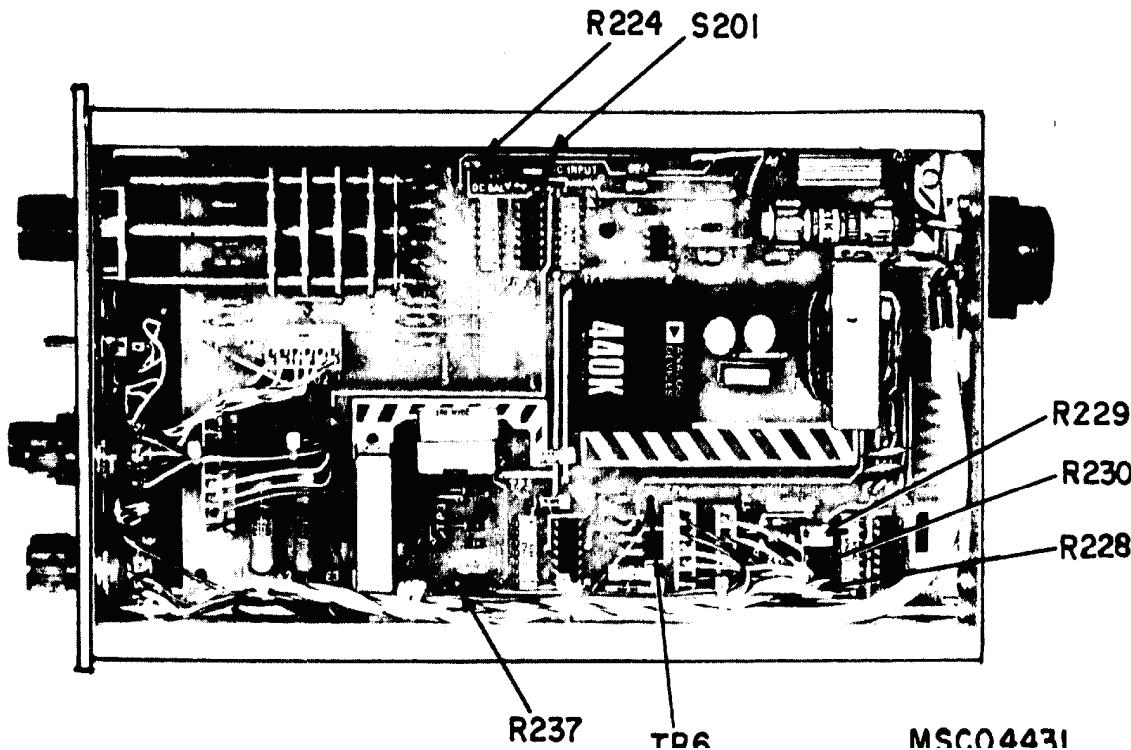

Figure 3. Model 13-4618-10 - right side view.
- d. Set front panel controls as listed in (1) through (7) below:
- (1) **FULL SCALE** switch to **1**.
- (2) **ZERO SUPPRESSION** switch **OFF**.
- (3) **ZERO SUPPRESSION** control ccw to **0**.
- (4) **FILTER** switch **OFF**.
- (5) **MODE** switch to **X1 VOLTS**.
- (6) **SENSITIVITY** control fully cw.
- (7) **RANGE** switch to **X1**.
- e. Set **DC INPUT** switch S201 to left (fig. 3).
- (1) Disconnect calibrator.
- (2) Set **RANGE** switch to **X.1**.
- (3) Connect multimeter negative lead to TP7 and positive lead to TP6 (fig. 3) on TI.
- (4) Turn **SENSITIVITY** control on front panel fully ccw. Adjust R230 ZERO (fig. 3) for 0 +.005 V indication on multimeter.
- (5) Turn **SENSITIVITY** control on front panel fully cw, set S201 to DC INPUT (right) (fig. 3), and short pins 1 and 2 of 101. Adjust R237 OFFSET (fig. 3) for 0 ±.005 V indication on multimeter.
- (6) Set **RANGE** switch to **X1** on front panel and set S201 to DC BAL (left) (fig. 3).
- (7) Connect calibrator to pins 1 and 2 of **J-101**. Set calibrator for 1.000 VDC output and record multimeter indication.
- (8) Set calibrator to -1.000 VDC. If multimeter does not indicate voltage recorded in (7) above, adjust R224 DC BAL (fig. 3) for same reading within ±0.002 V. Repeat (7) and (8) above until no further adjustment is needed (R).
- (9) Adjust R229 SPAN (fig. 3) for multimeter reading of 5 ±0.005 V (R).
- (10) Adjust **ZERO SUPPRESSION** control cw to 100 percent, set **ZERO SUPPRESSION** switch **ON**, and **RANGE** switch to **X.1**. Adjust R228 SUP ADJ (fig. 3) for 0 ±.005V indication on multimeter.
- (11) Repeat (1) through (10) above to eliminate interaction.
- (12) Slide all manual ink valves with tubing attached to **OFF** position on recorder.